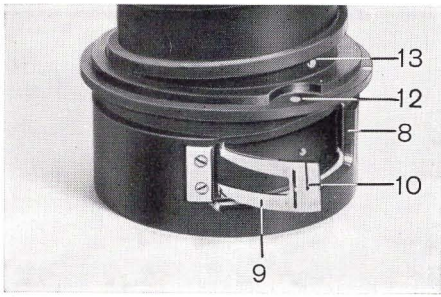

fig. 4
see the metal tongue (9) which is used to take hold of the film. The tongue can be taken out raising it from the right with a fingernail - see figure 4.
Make sure tongue (9) flattens against the cylinder and turn same a bit so that the reference red dots (12 and 13) - fig. 4 - coincide.